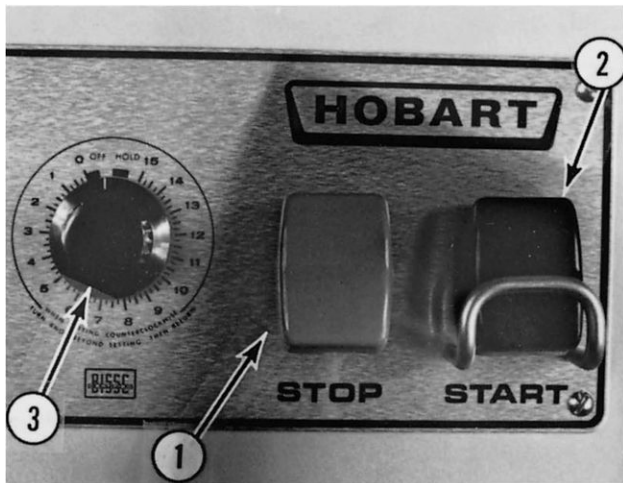

Fig. 14-1
A. Stop Switch (1PB) (1, Fig. 14-1).